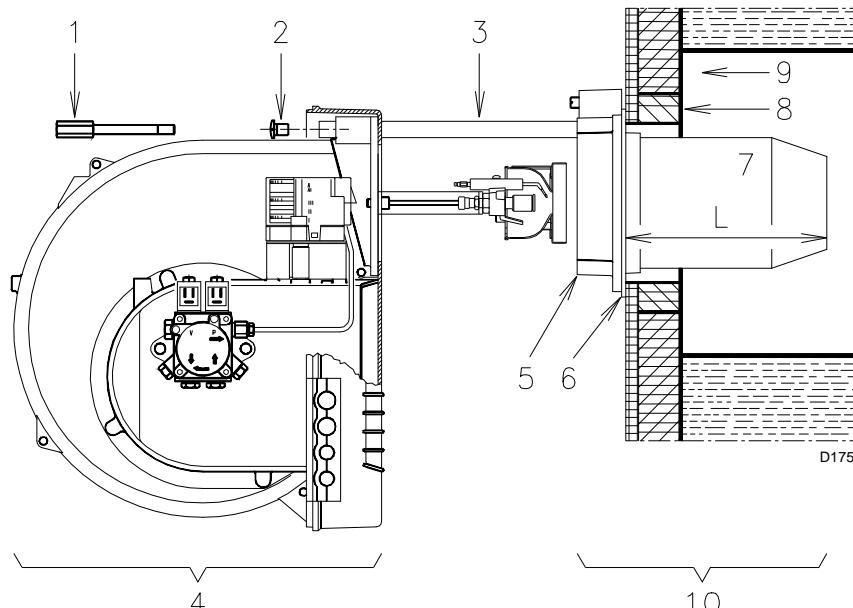

Fig. 11
- If it proves necessary to change the nozzle with the burner already fitted to the boiler, open the burner on the slide bars as shown in Fig. 11, pag. 13, after having mounted the extensions 16)(Fig. 6, pag. 10), and proceed as described above.